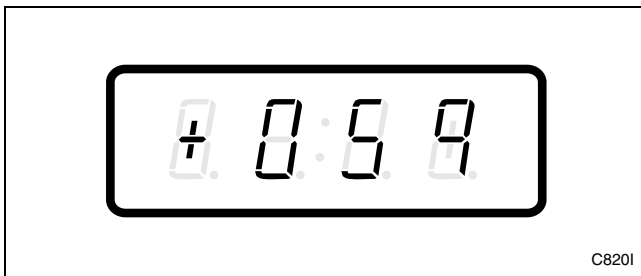

Figure 212
3. Press the DELICATES (+) or the COLD (-) keypad to scroll through the programmable options until “+059” appears in the VFD. Refer to *Figure 212*.